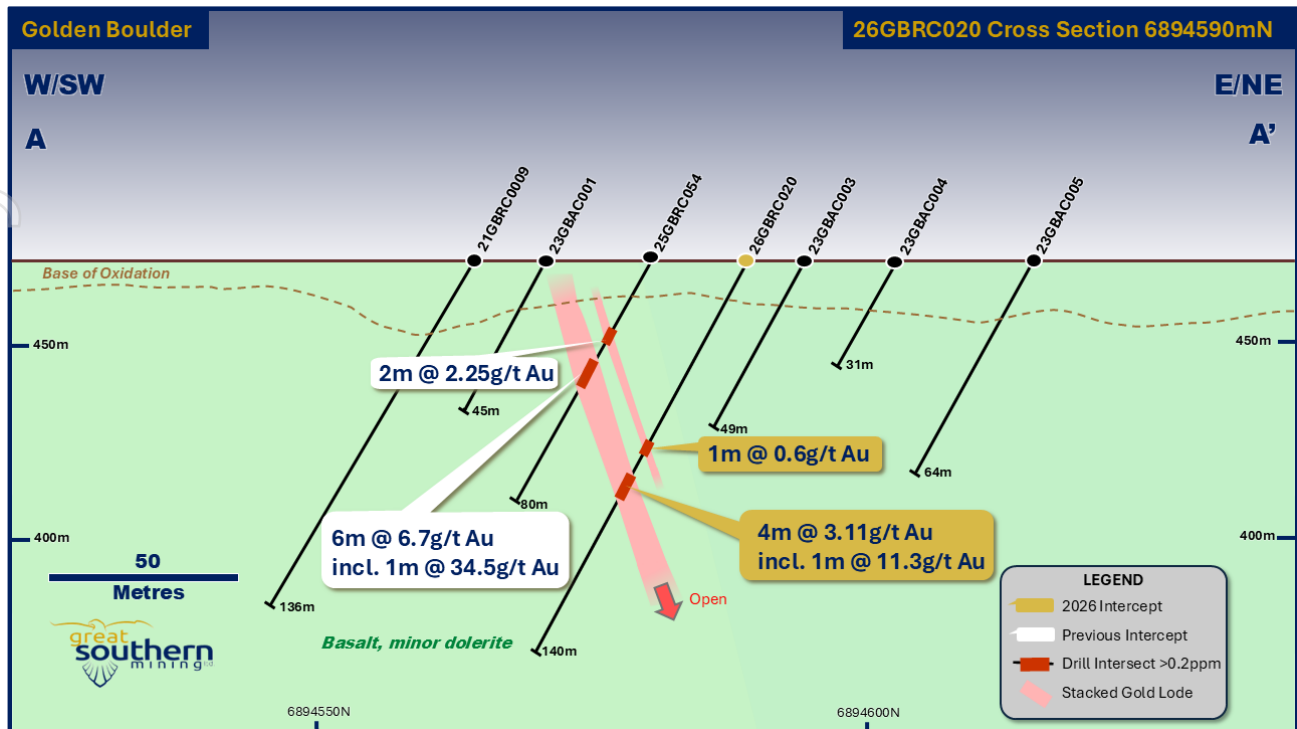

Figure 2. Interpreted cross-section at 6894590mN showing results from recent drill hole 26GBRC020 and previous drilling.
- **4m at 3.11 g/t Au from 74m, including 1m at 11.3 g/t Au** in hole 26GBRC020 (Figure 2)